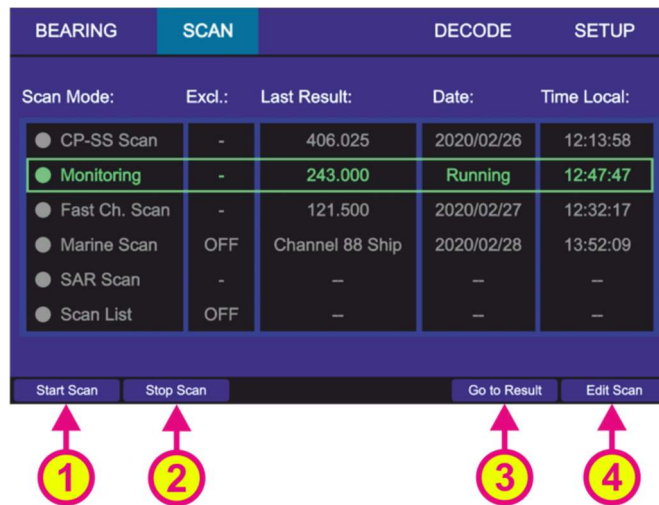

Figure 35. "Monitoring" has been activated
- To start the “Monitoring” mode select the corresponding line on the “Scan” page and press “OK” or the hotkey “Start Scan” (s. Figure 35, position 1).
- Pressing the hotkey “Stop Scan” (s. Figure 35, position 2) will terminate the current scan mode and change to the bearing of the frequency that was set before the scan mode has been activated.